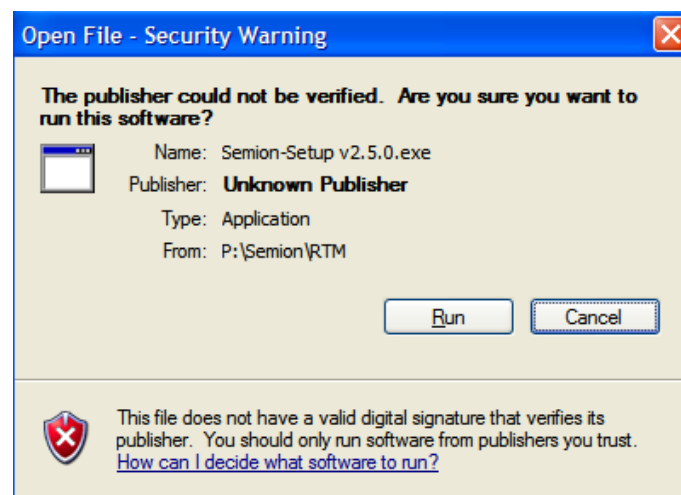

Figure 5-1: Security warning dialog.
3. A security dialogue, similar to that shown in Figure 5-1 may appear and can be ignored by choosing “Run”